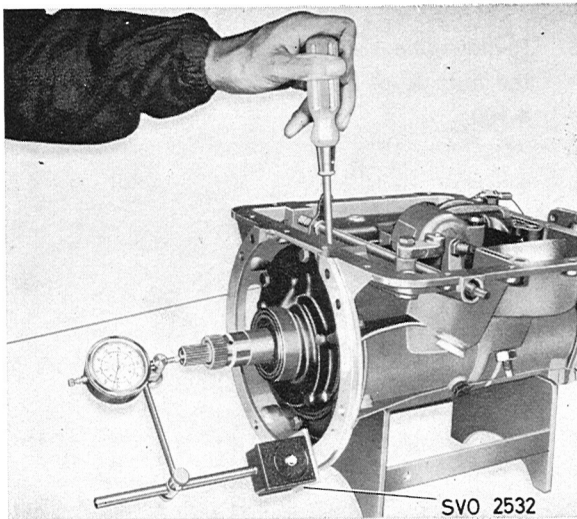

Fig. 4-94. Checking end float
21. Set up the dial indicator gauge as shown in Fig. 4-94 with plate 2532 and magnetic attachment.